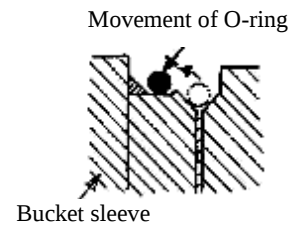

Fig.2-48
- Side O-ring out as shown in Fig. 2-48.